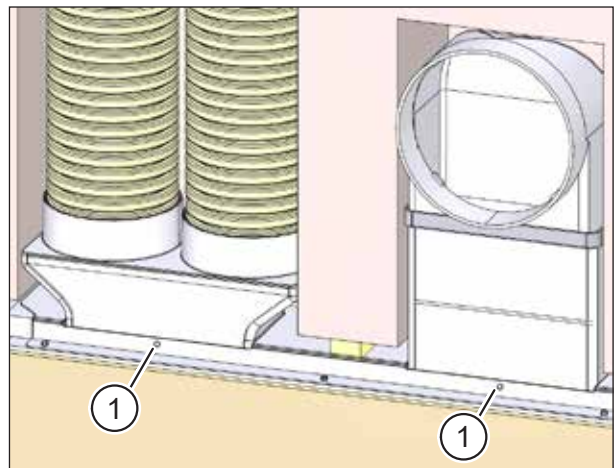

Fig. 30: Fixing the connections for flat ductwork/flexible pipe to the wall box
There are two holes (item 1 in Fig. 30) in the plastering trim for fixing the flat ductwork or flexible pipe connections to the wall box with blind rivets if necessary. These holes will also need to be drilled in the flat ductwork or flexible pipe connections.
- ▶ Use the 3 mm drill bit to drill through the holes in the plastering trim (item 1 in Fig. 30) and into the flat ductwork or flexible pipe connections.